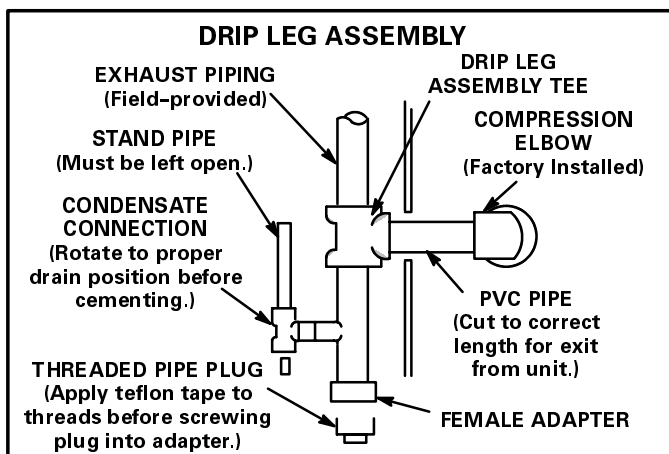

FIGURE 5
- 5 – Cement drip leg assembly tee to PVC pipe as shown in figure 5.